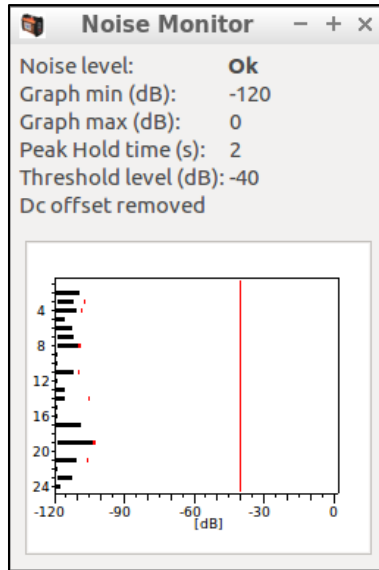

Figure 48 Increased graph min value
- Adjusting the graph min (Figure 48)
- Adjusting the graph max (Figure 48)